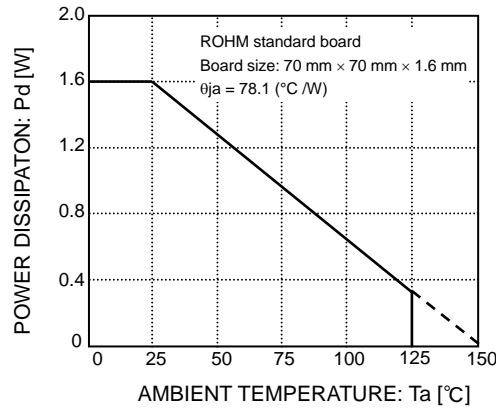

Fig.17
Refer to the dissipation reduction illustrated in Fig.17 when using the IC in an environment where $T_a \geq 25^\circ\text{C}$. The characteristics of the IC are greatly influenced by the operating temperature. If the temperature exceeds the maximum junction temperature T_{jmax} , the elements of the IC may be damaged. It is necessary to give sufficient consideration to the heat of the IC in view of two points, i.e., the protection of the IC from instantaneous damage and the maintenance of the reliability of the IC in long-time operation.
In order to protect the IC from thermal destruction, the operating temperature of the IC must not exceed the maximum junction temperature T_{jmax} . Fig.17 illustrates the power dissipation/heat mitigation characteristics for the HRP-7 package. Always operate the IC within the power dissipation (P_d). The following method is used to calculate the power consumption P_c (W).